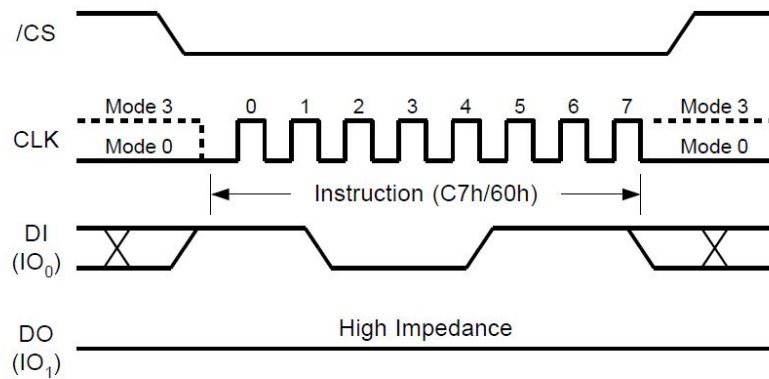

Figure19. Chip Erase Sequence Diagram
The Chip Erase command sequence: CS# goes low → sending Chip Erase command → CS# goes high. The command sequence is shown in Figure19. CS# must be driven high after the eighth bit of the command code has been latched in; otherwise the Chip Erase command is not executed. As soon as CS# is driven high, the self-timed Chip Erase cycle (whose duration is tCE) is initiated. While the Chip Erase cycle is in progress, the Status Register may be read to check the value of the Write in Progress (BUSY) bit. The Write in Progress (BUSY) bit is 1 during the self-timed Chip Erase cycle, and is 0 when it is completed. At some unspecified time before the cycle is completed, the Write Enable Latch (WEL) bit is reset. The Chip Erase (CE) command is executed, if the Block Protect (BP2, BP1, and BP0) bits are 0 and CMP=0 or the Block Protect (BP2, BP1, and BP0) bits are 1 and CMP=1.